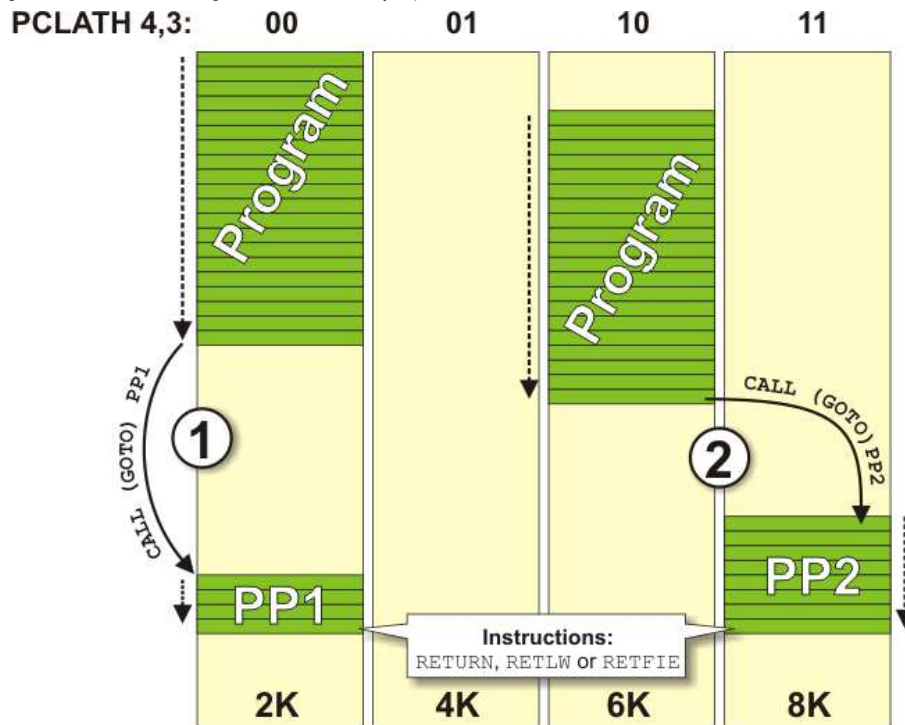

Fig. 2-17 PCLATH Registers
- On subroutine call or jump execution (instructions CALL and GOTO), the microcontroller is able to provide only 11-bit addressing. For this reason, similar to RAM which is divided in "banks", ROM is divided in four "pages" in size of 2K each. Such instructions are executed within these pages without any problems. Simply, since the processor is provided with 11-bit address from the program, it is able to address any location within 2KB. Figure 2-17 below illustrates this situation as a jump to the subroutine PP1 address.
However, if a subroutine or jump address are not within the same page as the location from where the jump is, two "missing"- higher bits should be provided by writing to the PCLATH register. It is illustrated in figure 2-17 below as a jump to the subroutine PP2 address.